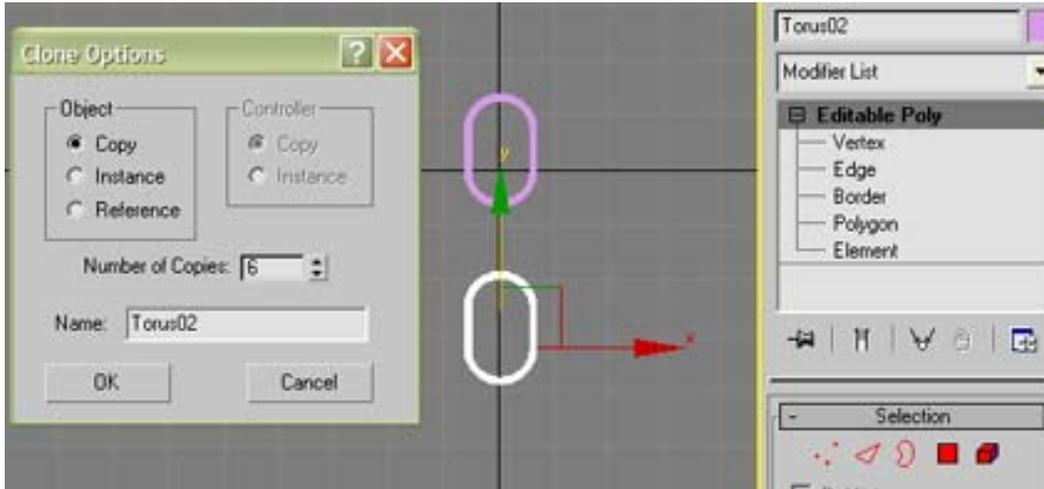

Figure 4. Cloning Options
Step 6. The chain-link should still be active and this step also uses the move tool.  With your cursor over the green Y-axis, **Shift**-drag down to make a clone. The Clone Options box pops up and asks some questions. Select Copy from the Clone Objects box and put in 6 for the Number of Copies. Click OK and you should now have six clones and seven chain-links total. See figure 4 below for help.